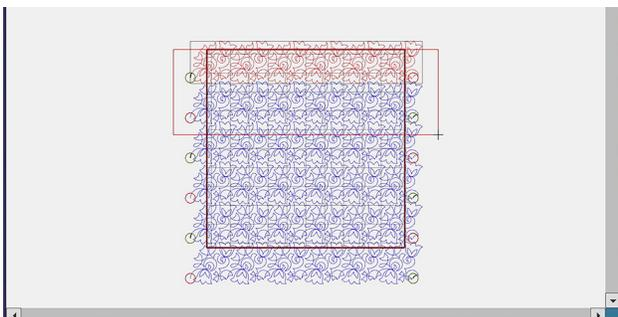

Fig. 55
13.  Select Row 2, then select Reverse Sew. This reverses the start/end points so that the Q-matic can stitch back and forth without stopping (Fig. 55). Repeat for Rows 4 and 6 (and any other alternate rows you added to your quilt).